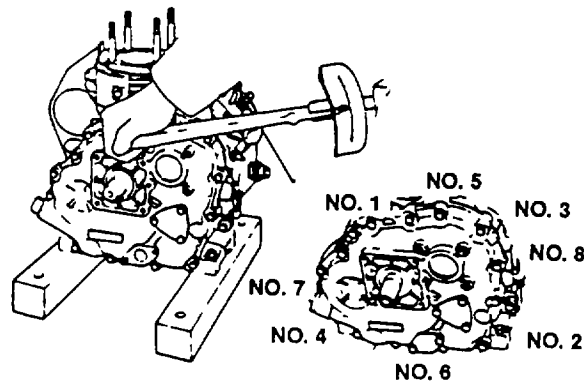

Figure 6-7. Tightening Sequence for Crankcase Cover Bolts
- g. Refer to Figure 6-7. Tighten bolts in sequence shown and torque to 72-96 in-lb (83-110 kg-cm).